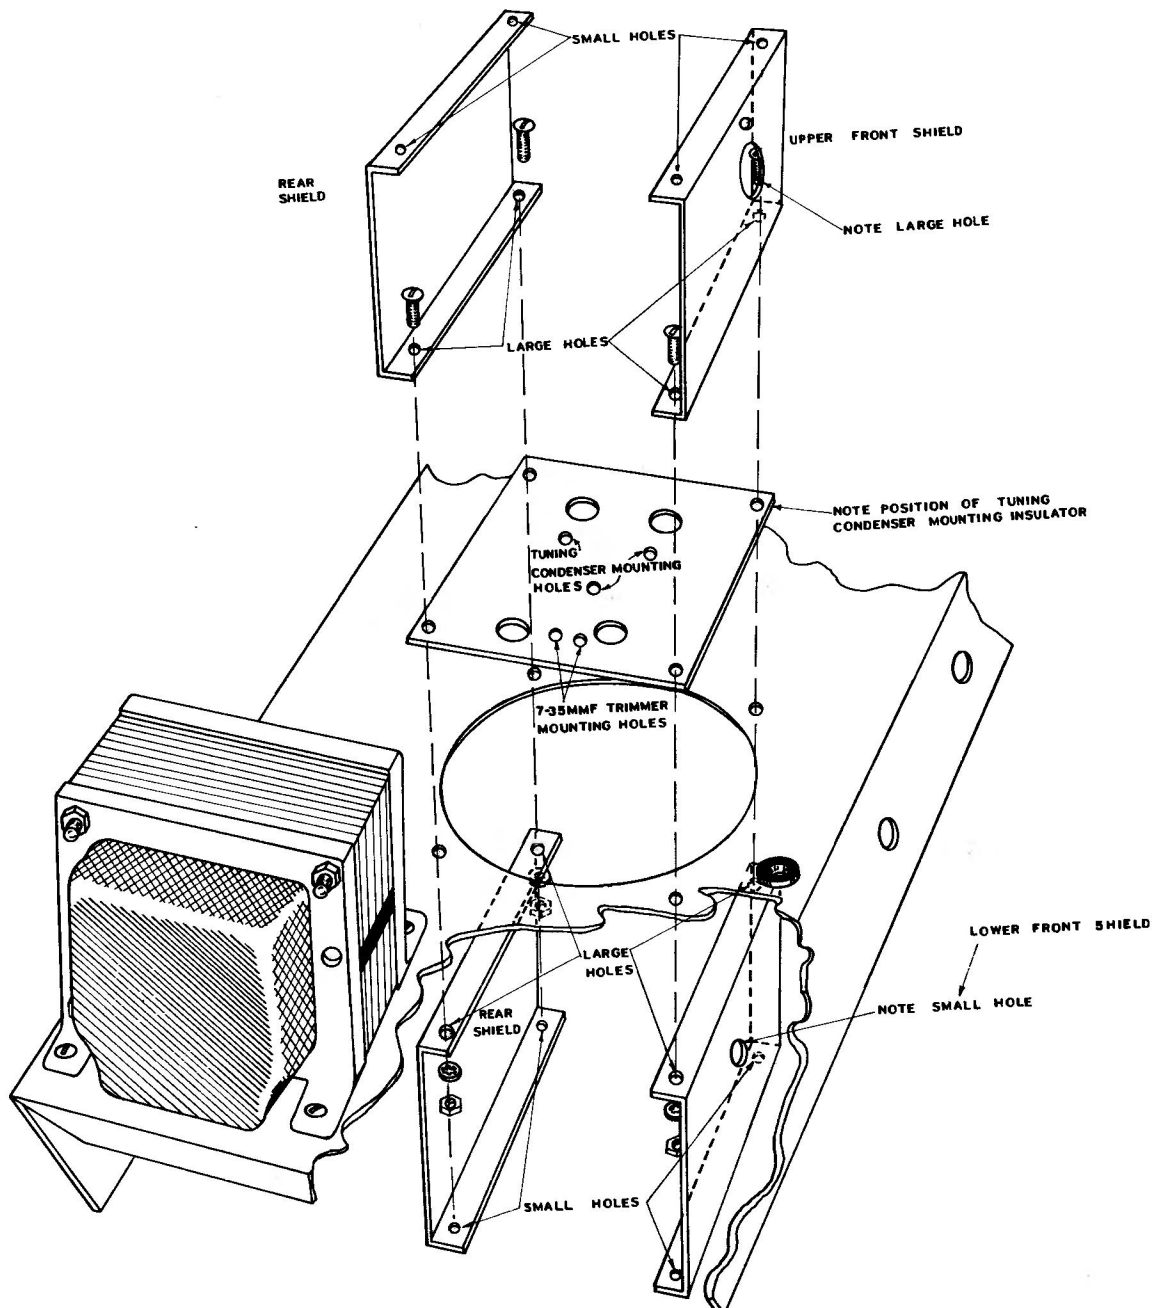

Figure 1
- () Place the tuning capacitor mounting insulator over the large hole on top of the chassis as shown in Figure 1 on Page 11. Orient the large hole nearest the edge of the insulator to the corner toward the power transformer. Using 6-32 hardware, install the insulator, together with the upper and lower front shields, as shown. (Do not install the rear shields at this time.)
- () Mount the tuning gang on the insulator using three 3/16" 6-32 screws in the holes marked for that purpose in Figure 1. Include solder lugs SL-1 and SL-2 under the two screws toward the chassis front, oriented as shown in Pictorial 1 on Page 9.
- () Connect a bare wire from SL-1 (S-1) to T-1 (NS).